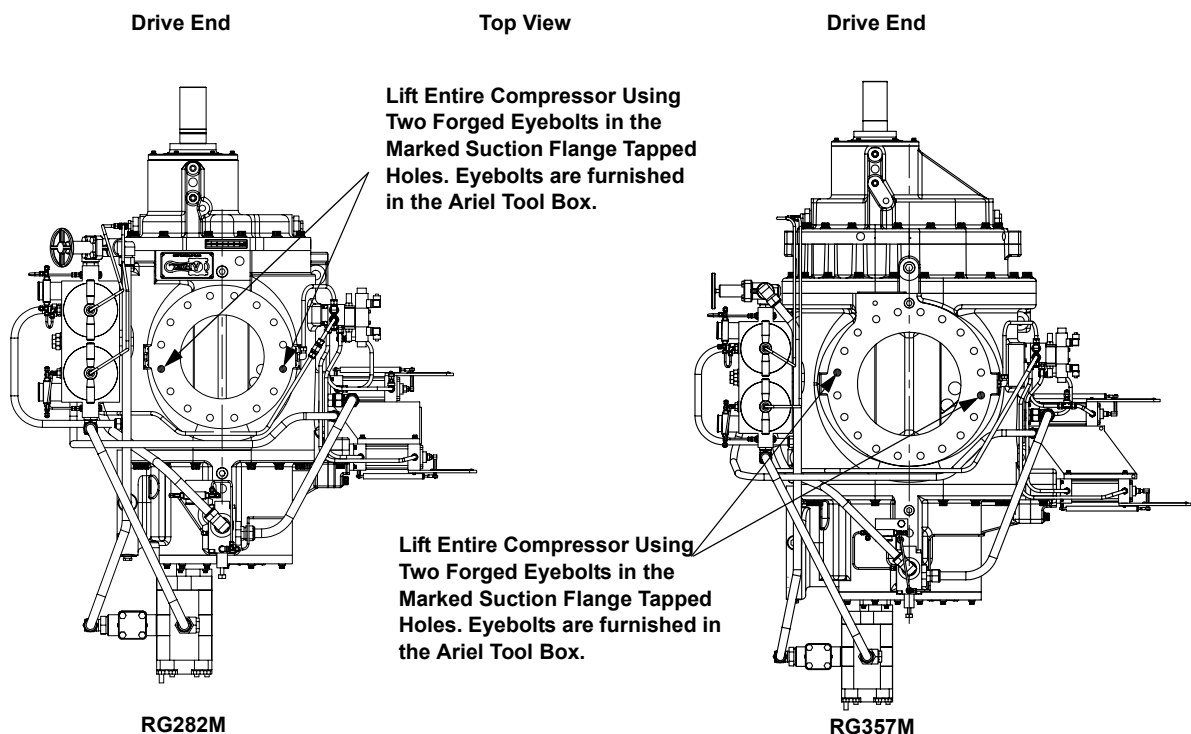

FIGURE 2-4 LIFTING POINTS FOR COMPRESSORS WITHOUT BELL HOUSING
2. Lift the compressor with an overhead crane using the forged eyebolts supplied in the Ariel toolbox. Maintaining compressor balance, near to level, will facilitate setting the compressor. Refer to Figure 2-4 for the compressor's required lifting points. See the compressor outline drawing for the compressor's center of gravity